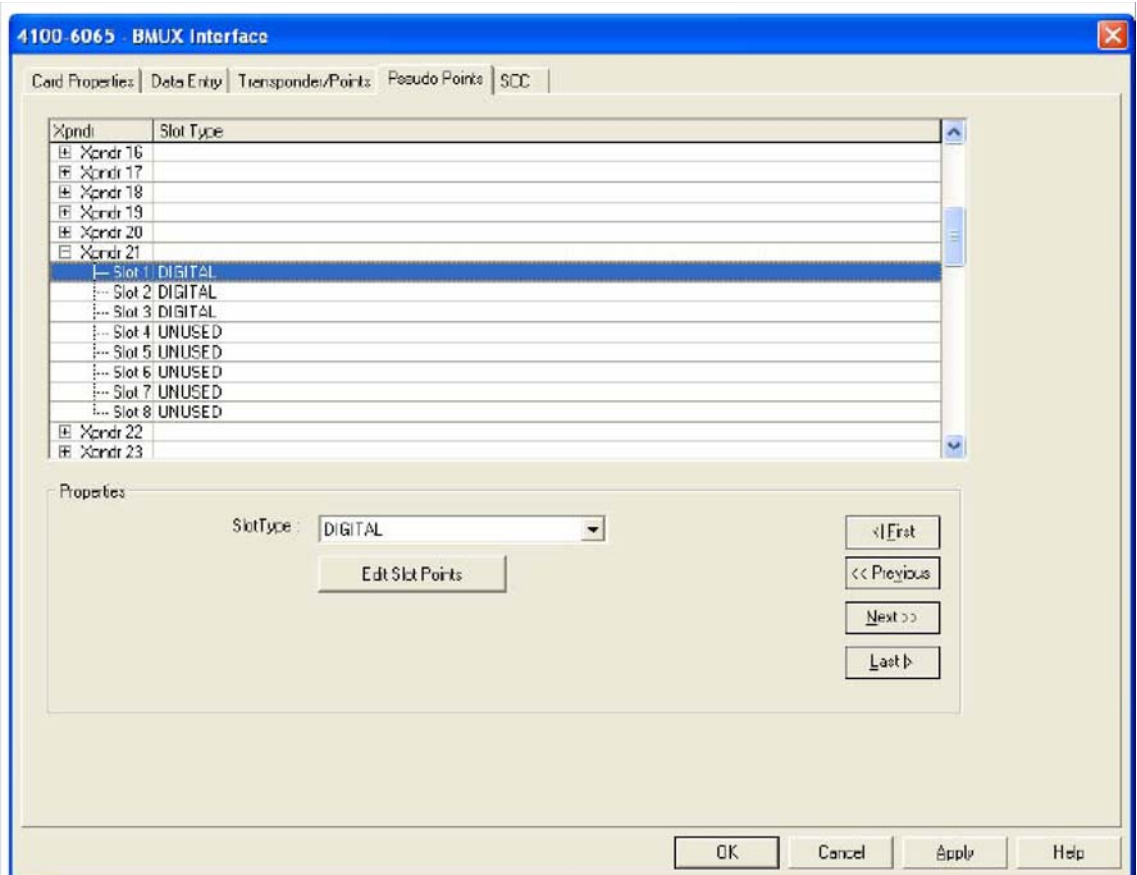

Figure 6-41. Pseudo Point Tab
1. Click on the **Pseudo Points** tab on the 4100 6065 BMUX Interface. A dialog box appears as shown in Figure 6-41.